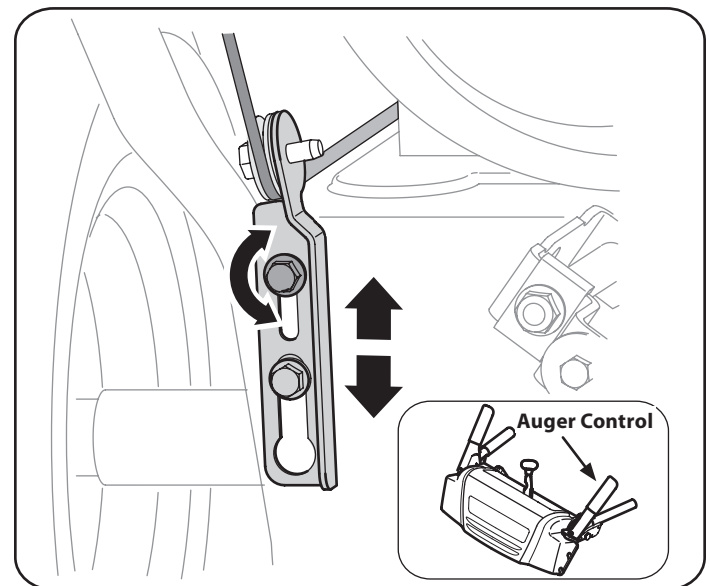

Figure 15
1. The auger control is located on the left handle. See Figure 15 inset. When the auger control is released and in the disengaged “up” position, the cable should have very little slack. It should NOT be tight.
4. Allow the augers to remain engaged for approximately ten (10) seconds before releasing the auger control. Repeat this several times.
7. To readjust the control cable, loosen the upper hex bolt on the auger cable bracket. See Figure 15.
2. A fuel level indicator is located in the fuel tank. See Figure 15 inset. Be careful not to overfill. Fill tank until fuel reaches the fuel level indicator to allow space for fuel expansion.